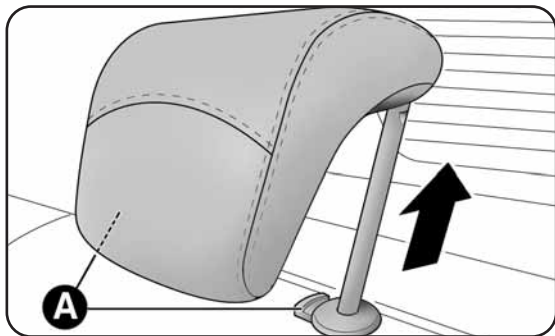

fig. 25
- press button A fig. 25 and then remove the head restraint by sliding it upwards.